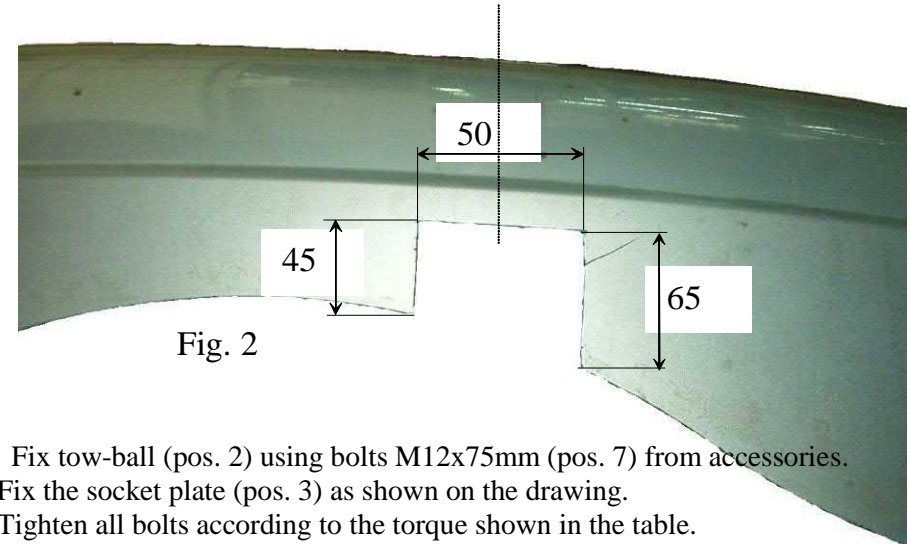

Fig. 2
3. To uncovered holes put special nuts „Caget nut” (pos.13).
4. Put mian bar of the towbar in this way, so towbar’s holes agree with caget nut, fix by M10x35mm bolts (pos. 9) as shown on the drawing (loosely).
5. Fix side brackets pos. 4, 5 and flat bar pos. 6 .
6. Cut the bumper according to the fig. 2 and then reassemble it.